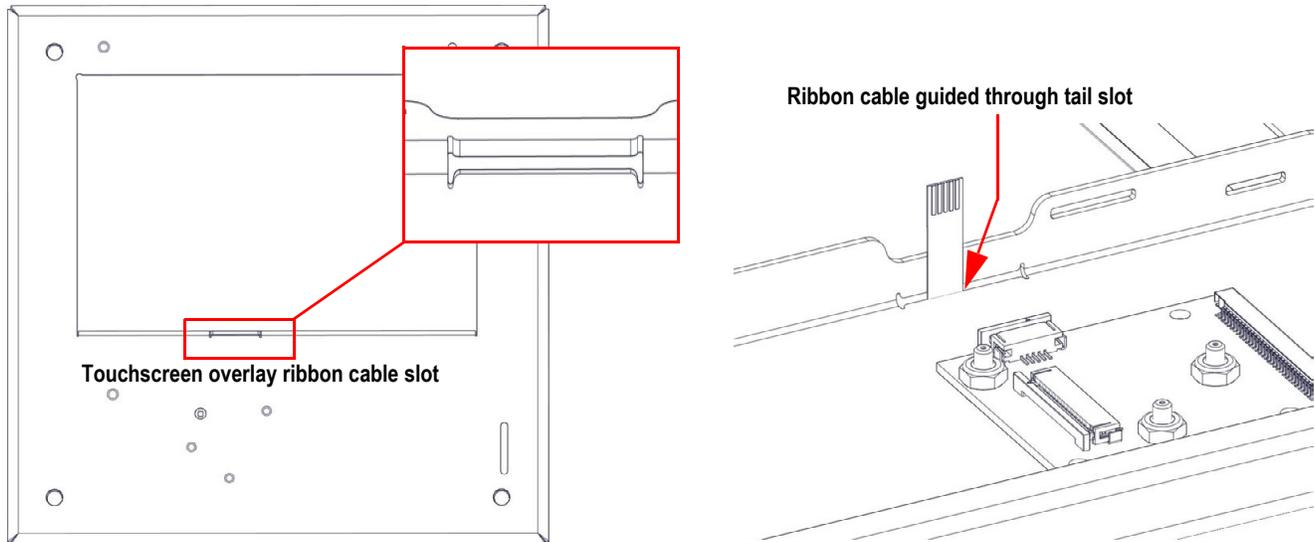

Figure 3. Screen Overlay Ribbon Tail Slot
**Note** *The touch only overlay ribbon tail is attached to an embedded HMI board in the overlay and does not require routing displayed in Figure 3.*